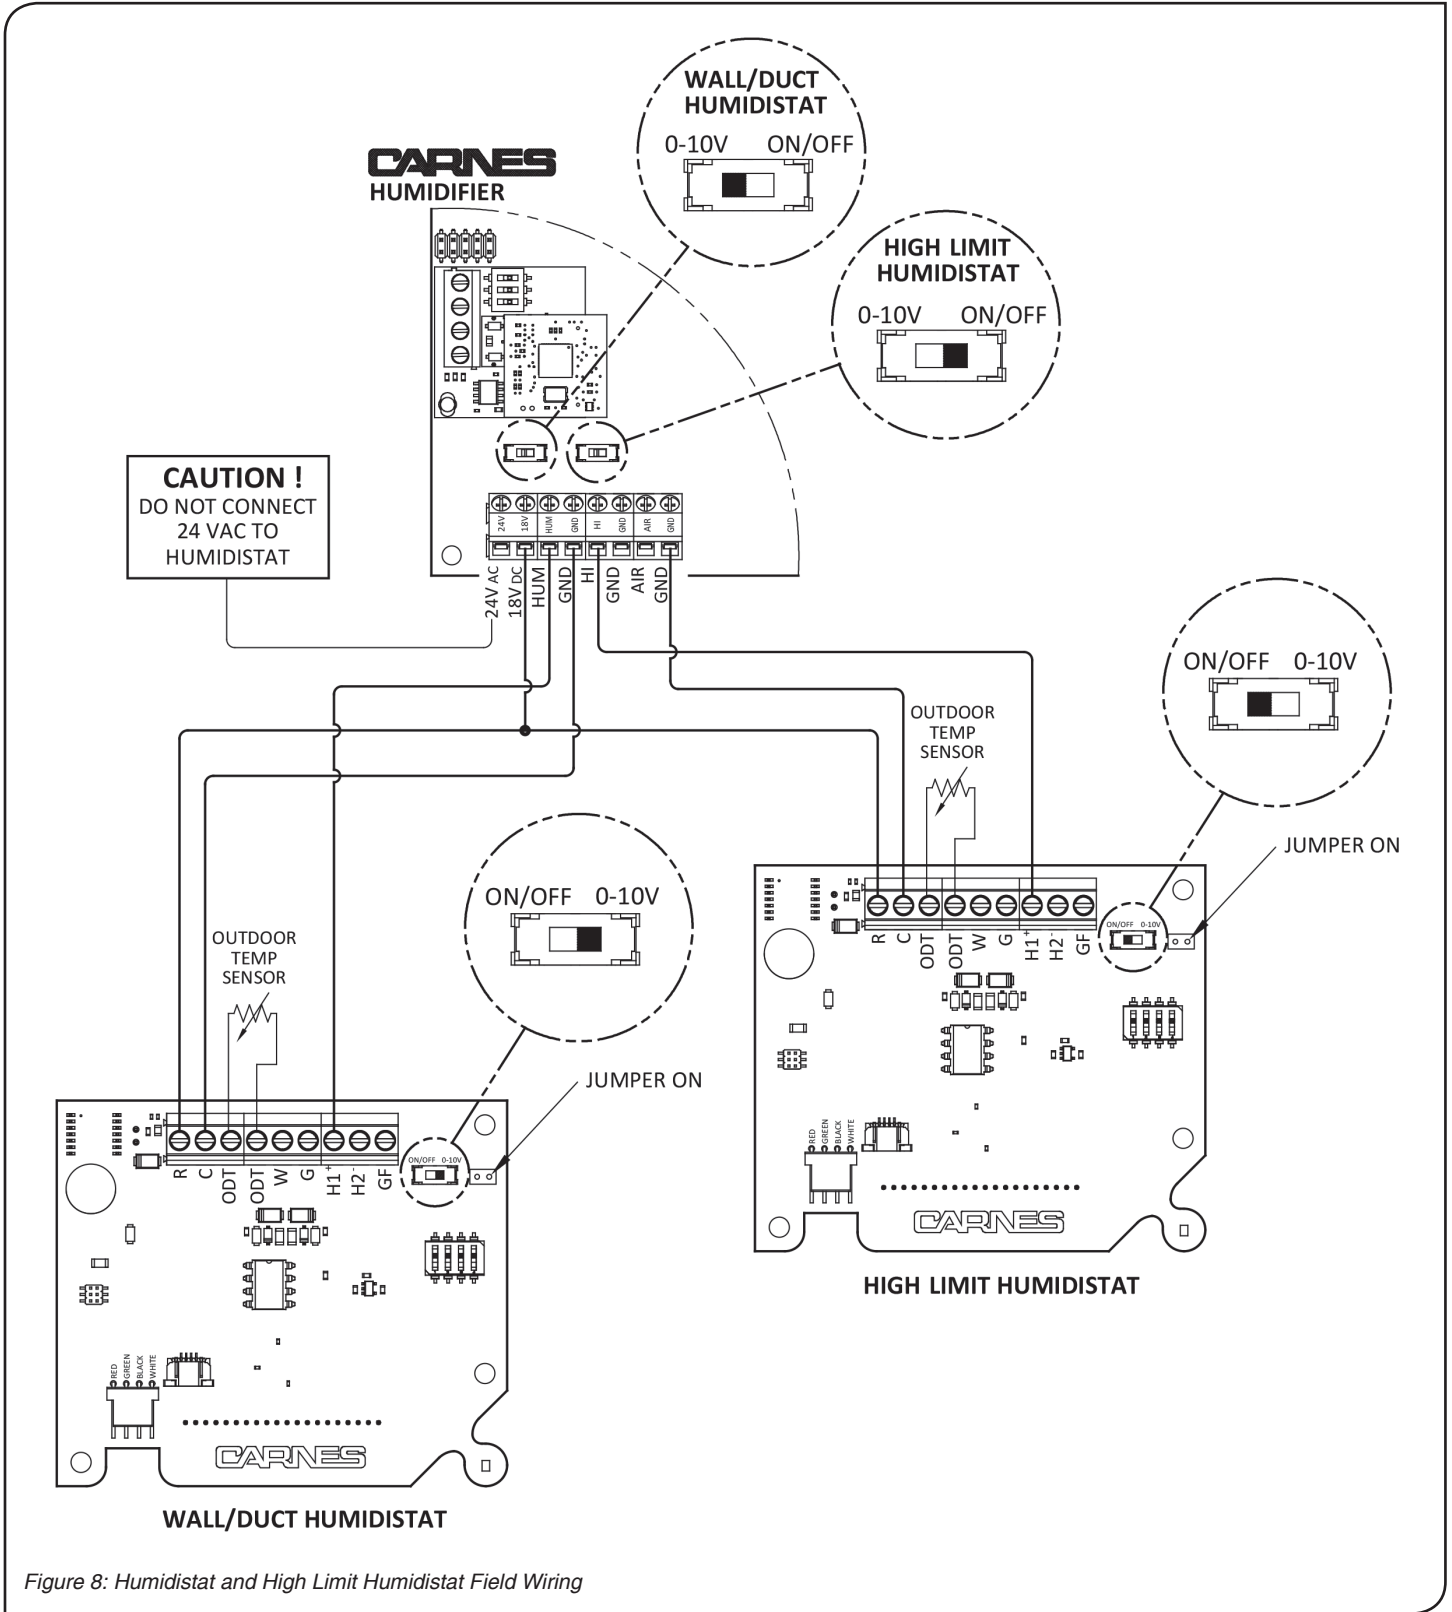

Figure 8: Humidistat and High Limit Humidistat Field Wiring
- See *Figure 8* for wiring diagram.